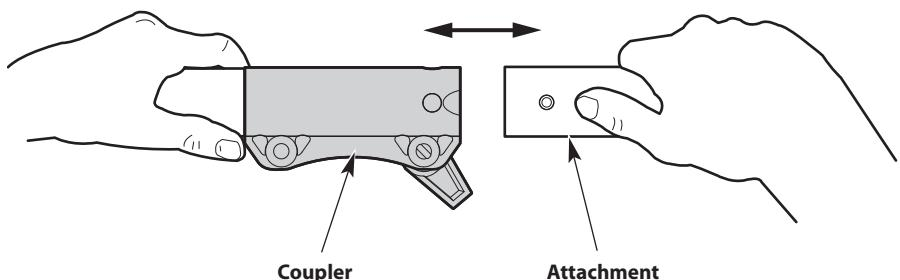
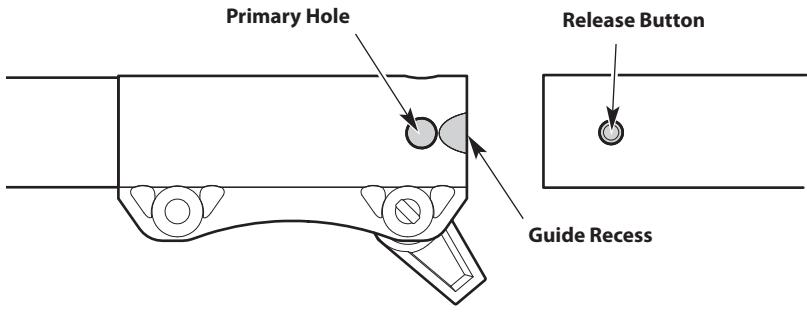

Fig. 6
Fig. 7
4. Align the release button with the guide recess (Fig. 7).
- Push the attachment straight into the coupler (Fig. 6) until the release button snaps firmly into the primary hole (Fig. 7).
- Press and hold the release button (Fig. 7).
- Pull the attachment straight out of the coupler (Fig. 6).